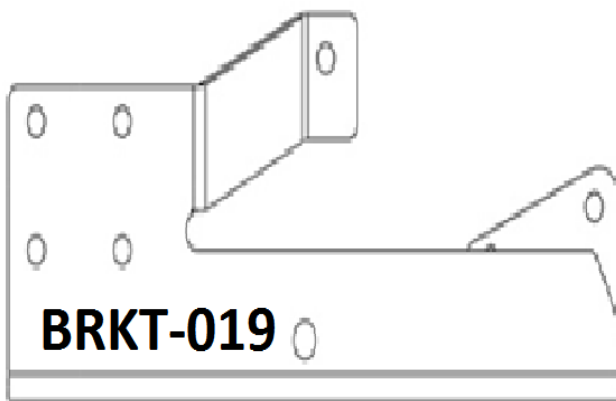

FIGURE 1
2. Attach BRKT-019 to engine case using stock hardware. Apply LOCTITE to all bolts. Tighten to factory specifications. **See Figure 1.**